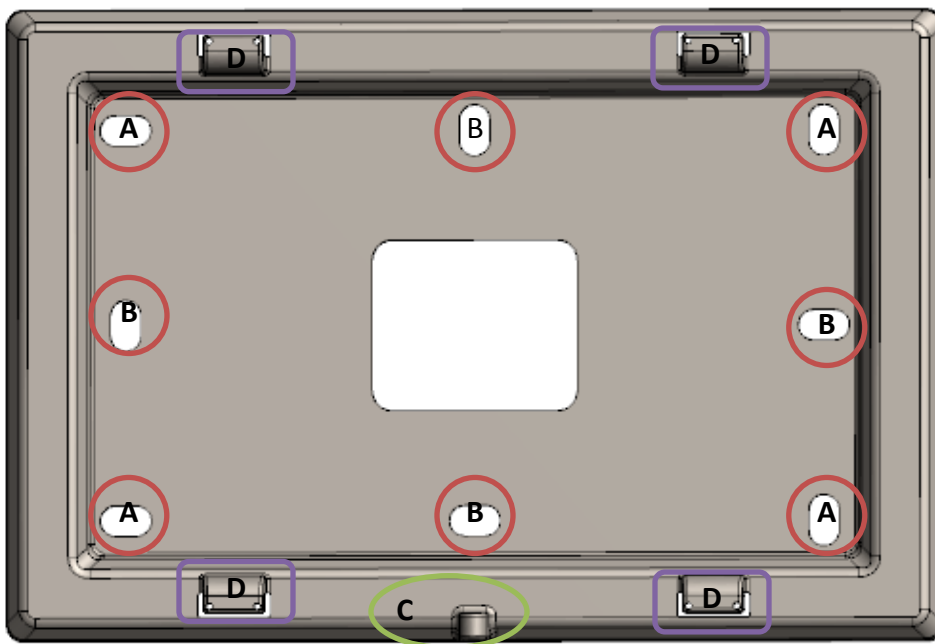
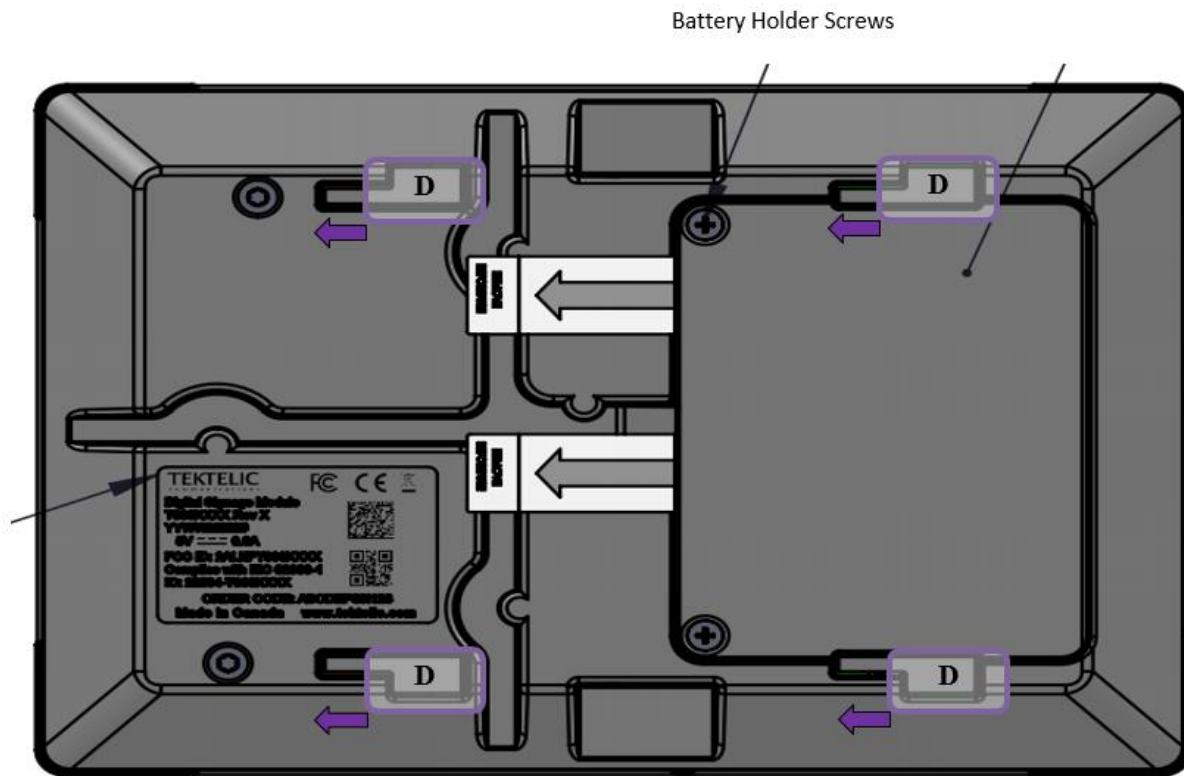

Figure 3-1: Wall mount plate.
Figure 3-2: Tablet back side
- Thread the Ethernet and/or Power cables through the rectangular opening in the wall plate. Ensure that the lock screw feature marked as “C” in Figure 3-1 is facing away from the mounting surface.
- Secure the mount plate on the mounting surface using 4 x M4 screws in locations A or B as shown in the Figure 3-1.
- To install the Tablet, first align the hooks on the mounting plate to the slots on the back of the Tablet (See features marked as “D” in Figure 3-1 and Figure 3-2), then push the Tablet onto the plate. Slide the Tablet to fix the Tablet in place.